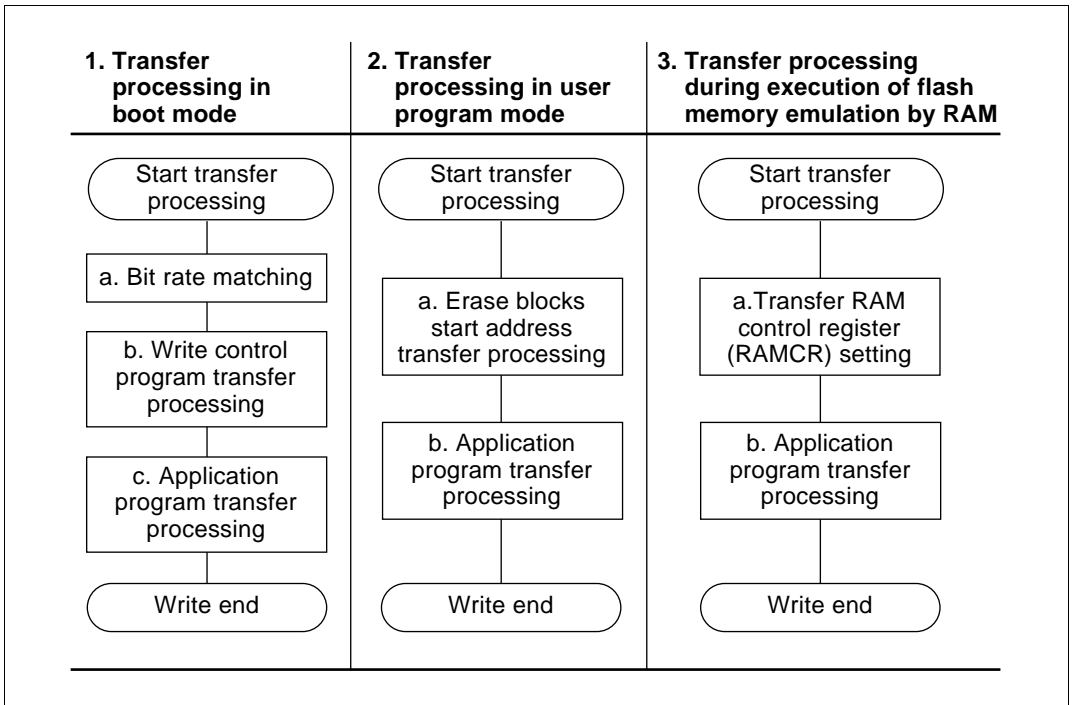

Figure 2.14 Transfer Processing in Each PC I/F Software Mode
During flash memory emulation by RAM in boot mode and user program mode, PC I/F software conducts F-ZTAT microcomputer program/erase and flash memory emulation by RAM with the transfer processing items in table 2.8. A transfer processing flowchart for each mode is shown in figure 2.14.
Transfer Processing in Boot Mode (Figure 2.14, Process 1): PC I/F software transfer processing details for boot mode are described in 1–3 below.
1. Automatic bit rate matching (figure 2.14, step 1a)
2. Program/erase control program transfer processing (figure 2.14, step 1b):
3. Application program transfer (figure 2.14, step 1c)
Transfer Processing in User Program Mode (Figure 2.14, Process 2): PC I/F software transfer processing in user program mode is described in 1 and 2 below.
1. Transfer of start address of target erase blocks (figure 2.14, step 2a)
2. Application program transfer (figure 2.14, step 2b)
Transfer Processing during Flash Memory Emulation by RAM (Figure 2.14, Process 3):
1. Transfer processing for RAM control register (RAMCR) setting (figure 2.14, step 3a)
2. Application program transfer (figure 2.14, step 3b)